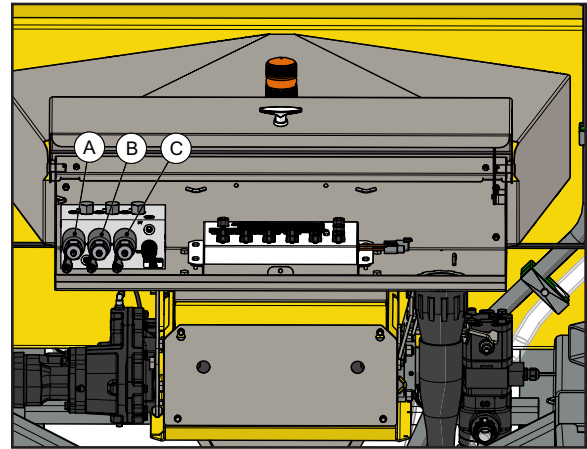

Figure 6
3. Figure 6 - Valve function is as follows: